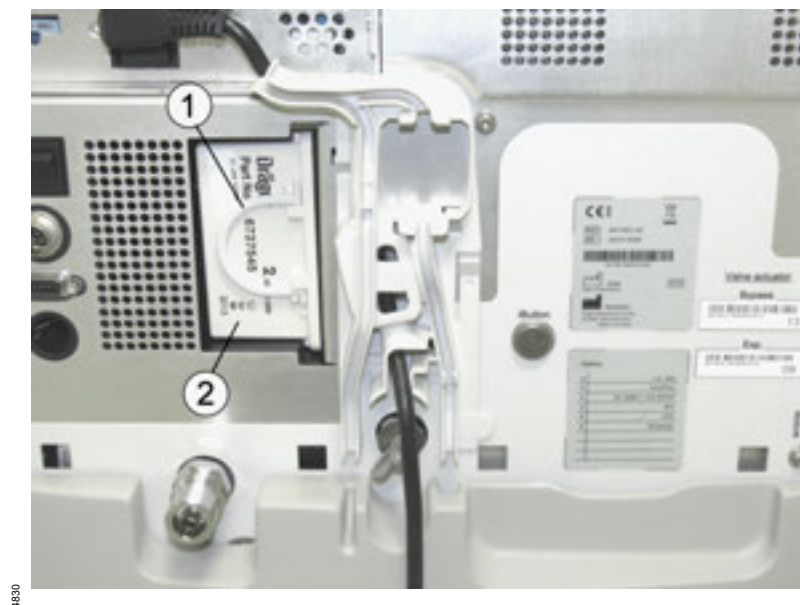

Fig. 71 Savina 300 rear; microfilter
- 3 Withdraw the microfilter (Fig. 71/2) by the tab (Fig. 71/1) out of its mount and dispose of it in the domestic waste bin.
- 1 Insert the new microfilter (Fig. 71/2) into its mount as far as it will go.
- 2 Close the tab (Fig. 71/1) against the microfilter.